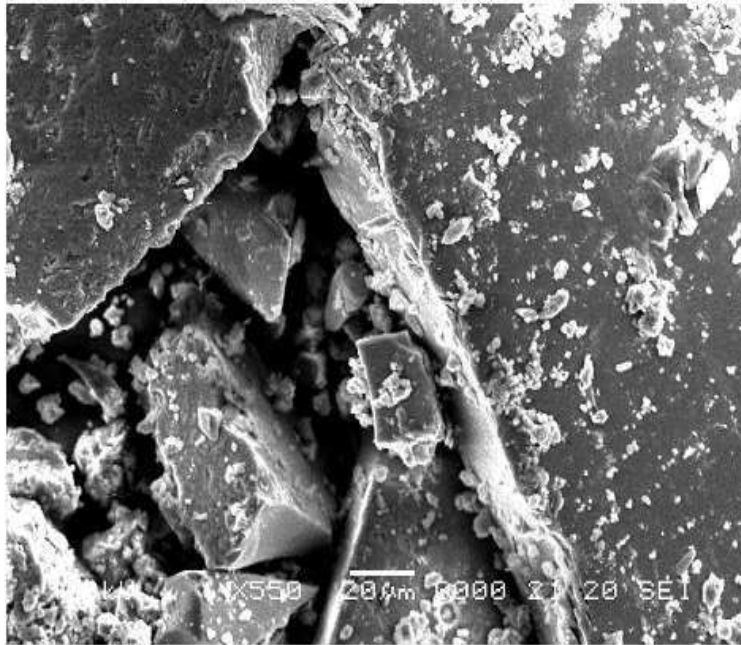

Fig. 2: SEM image of as prepared CuO nanoparticles.
- Figure 2** shows the SEM image of as prepared CuO nanoparticles. It shows that the CuO nanoparticles are in rectangular shape.